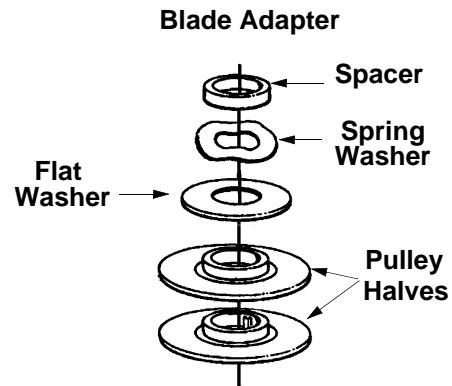

Figure 14
1. Place the two pulleys, the flat washer, the spring washer and the spacer on the engine crankshaft. See Figure 14.
13. Reassemble the transmission belt cover. Make sure to maintain the correct order while reassembling the blade, the blade adapter, and the pulleys, the washers, and the spacer. Refer to Figure 14.